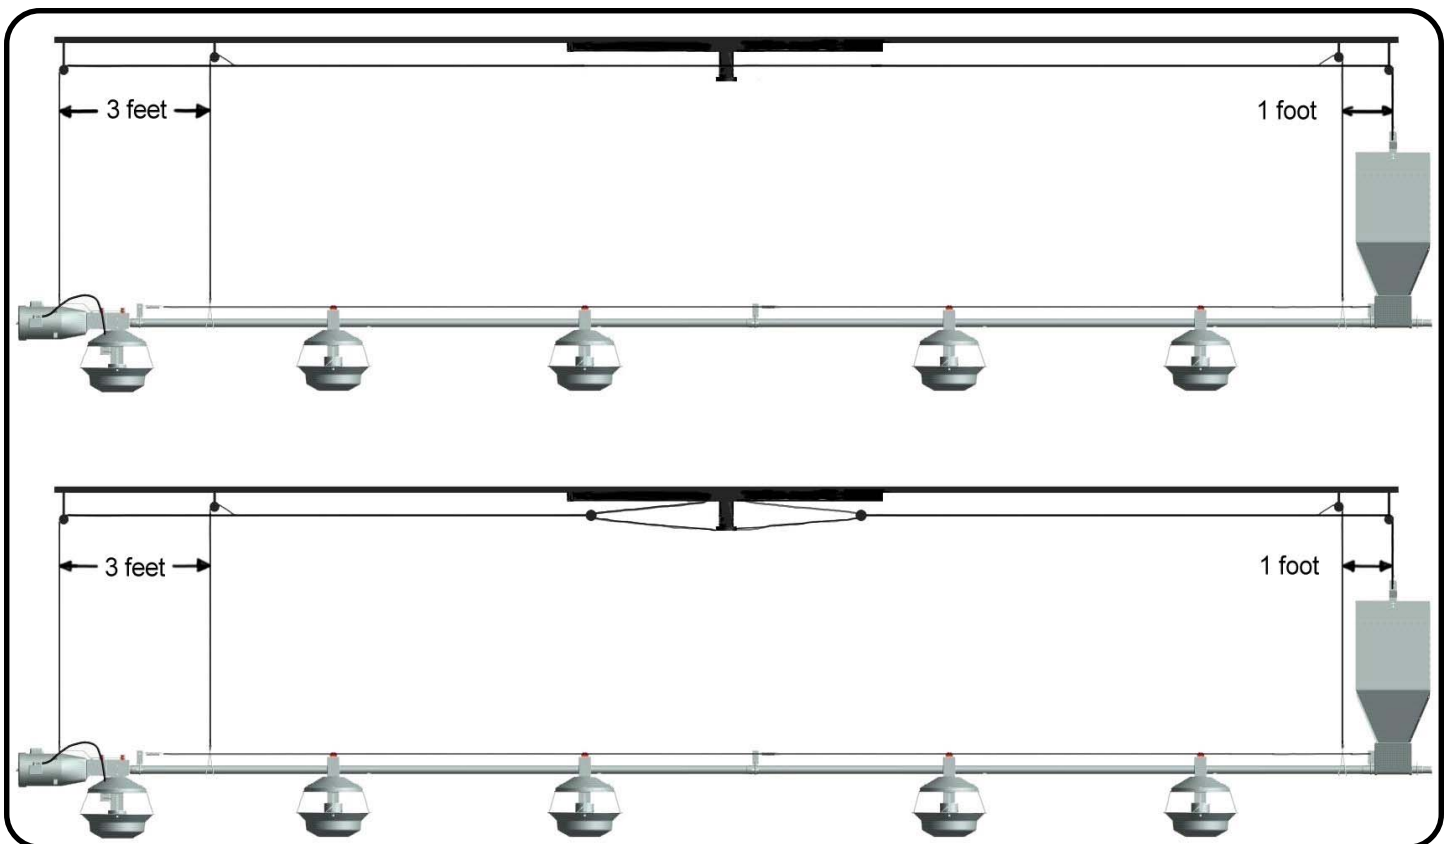

Figure 1
7. For systems shorter than 360 feet (91.4m), use direct pulleys, as shown in the top view of Figure 1. For systems longer than 360 feet (91.4m), use double reduction pulleys, as shown in the bottom view of Figure 1. String the cable through the cable hole on the winch drum and extend the winch cable the full length of the feeder line.